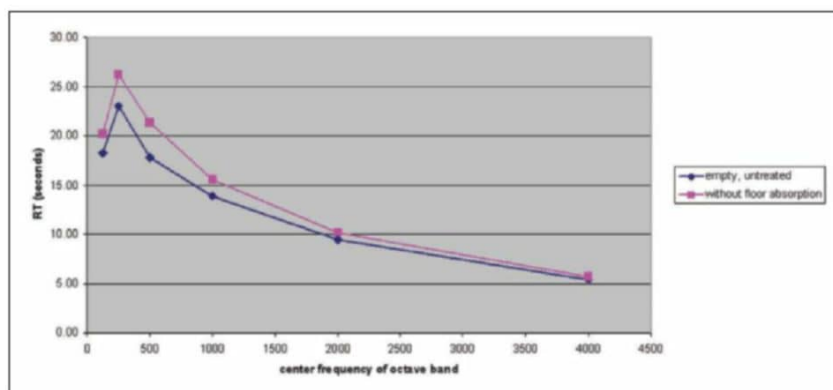

Figure 2: Ignoring the "low" absorption of a floor can lead to errors in predicting RT.
If no acoustical absorption is applied to the walls or ceiling and the gym is unoccupied, the reverberation time (RT) will be as shown in **Figure 2**. While the floor's contribution to total acoustical absorption is not large, neither is it negligible, even for an acoustically hard floor. Several acoustically hard floor finishes do have similar sound absorption behavior (e.g., VCT, LVT, and linoleum behave similarly as far as absorption is concerned.)